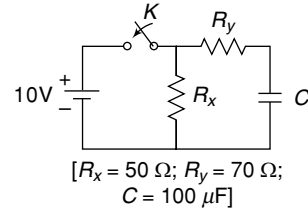

Fig. 1.32 Circuit of Ex. 1.20
1.20 In Fig. 1.32 the switch K is closed. Find the time when the current from the battery reaches to 500 mA.